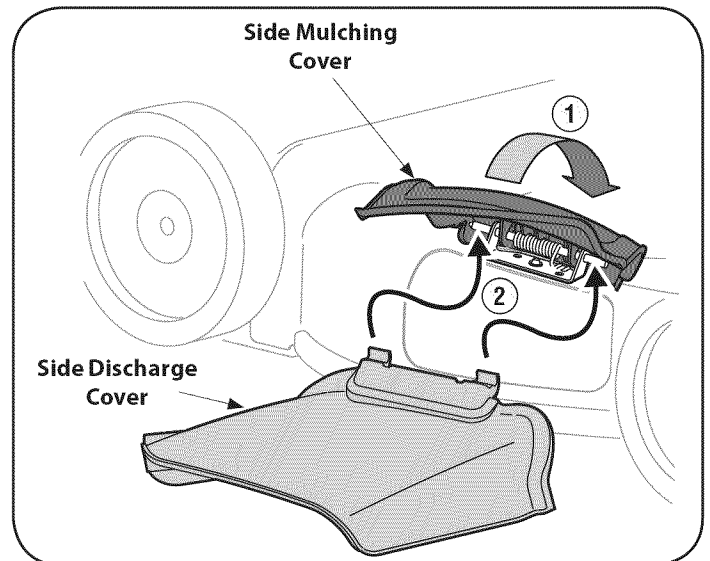

Figure 9
1. On the side of the mower, lift the mulching cover. See Figure 9.